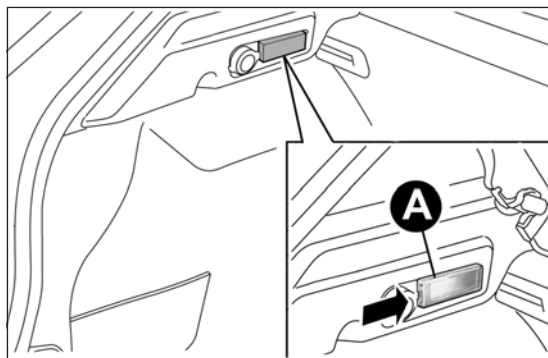

fig. 154
- open the luggage compartment and extract the roof light A fig. 154 working in the point shown by the arrow;
- refit the roof light A fig. 154 by inserting it in its correct position firstly on one side and then pressing on the other until it clicks into place.